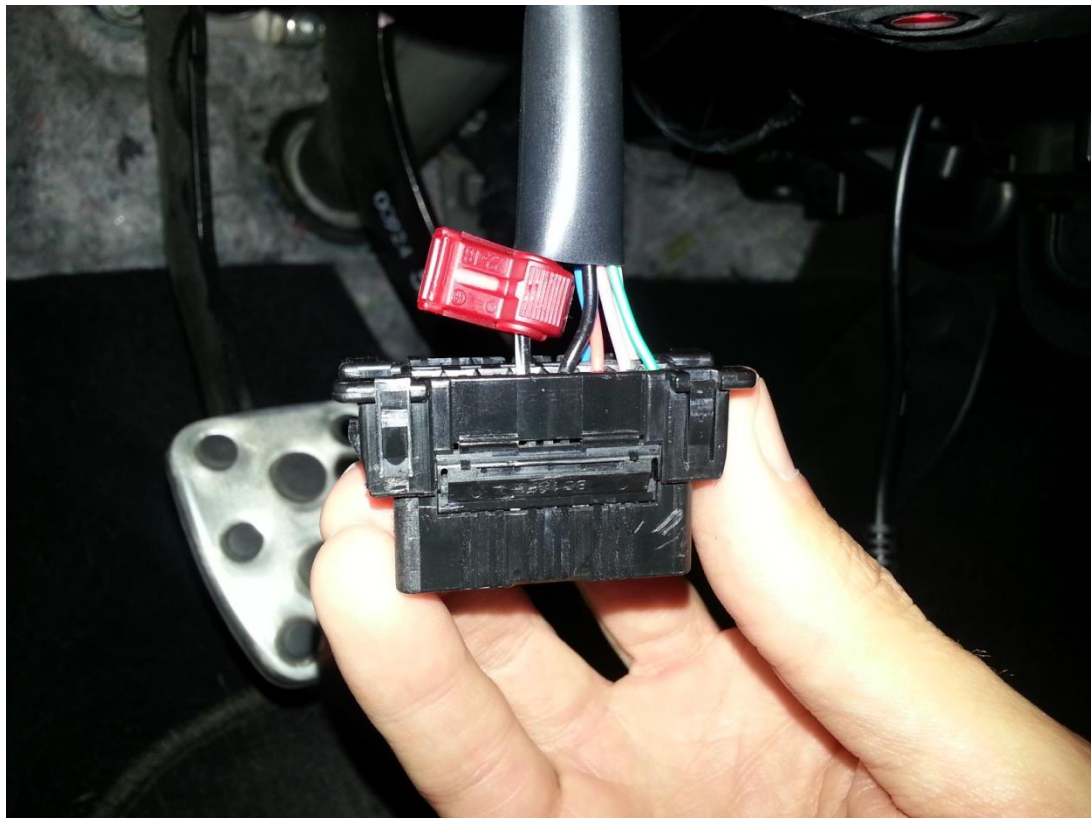

Figure 3 (OBD2 ground connection)
2. Connect the other end of the black accessory wire to the **black/white** wire (pin# 5) on the OBD2 port (**Figure 3, 5**)